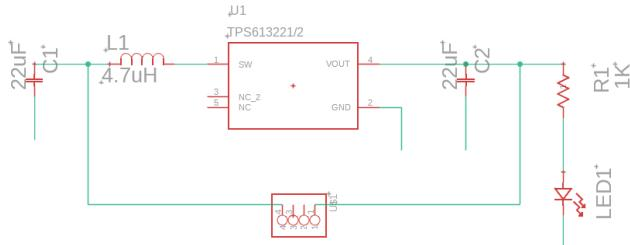

Figure 16: Various parts connected except for the ground connections.
3.15: Using the wire tool, we are now going to connect the parts as shown in Figure 16. Use the esc key when done placing a wire to move onto the next wire.